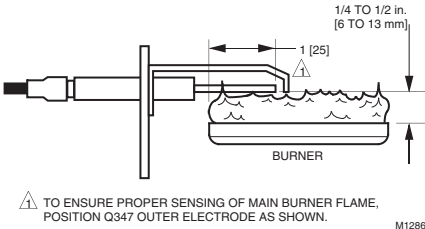

Fig. 2. Mount Q347 with respect to main burner flame.
6. Ensure that main burner flame is not blocked by the outer electrode. Mount Q347 as shown in Fig. 2.
7. Mount Q347B,C so the ignition flame remains properly positioned with respect to the main burner flame. Refer to Fig. 2.